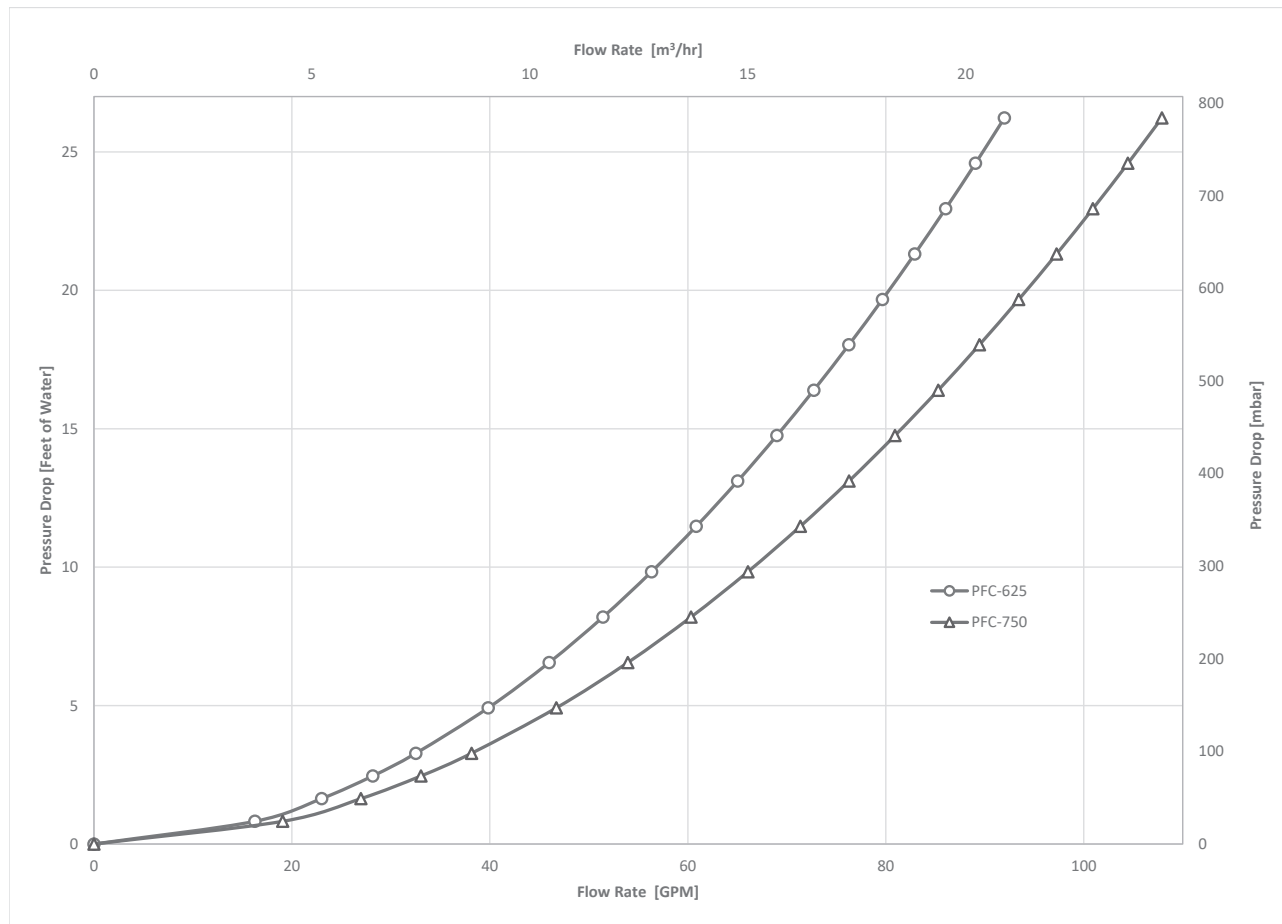

Figure 4.3: Series PFC™ Circulator Sizing Graph (General Pump – Primary/Secondary)
- d. The boiler pressure drop for various flow rates can be determined using Figure 4.3, PUREFIRE® Circulator Sizing Graph below.